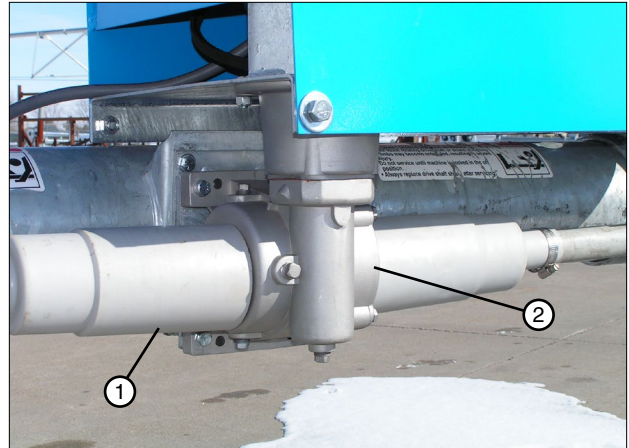

Figure 29-1 1. U-joint Shield
- Slide u-joint shield over the u-joint and position approximately 1/4 in away from touching the gearbox. Secure u-joint shield to drive shaft shield with clamp. See figure 29-1.